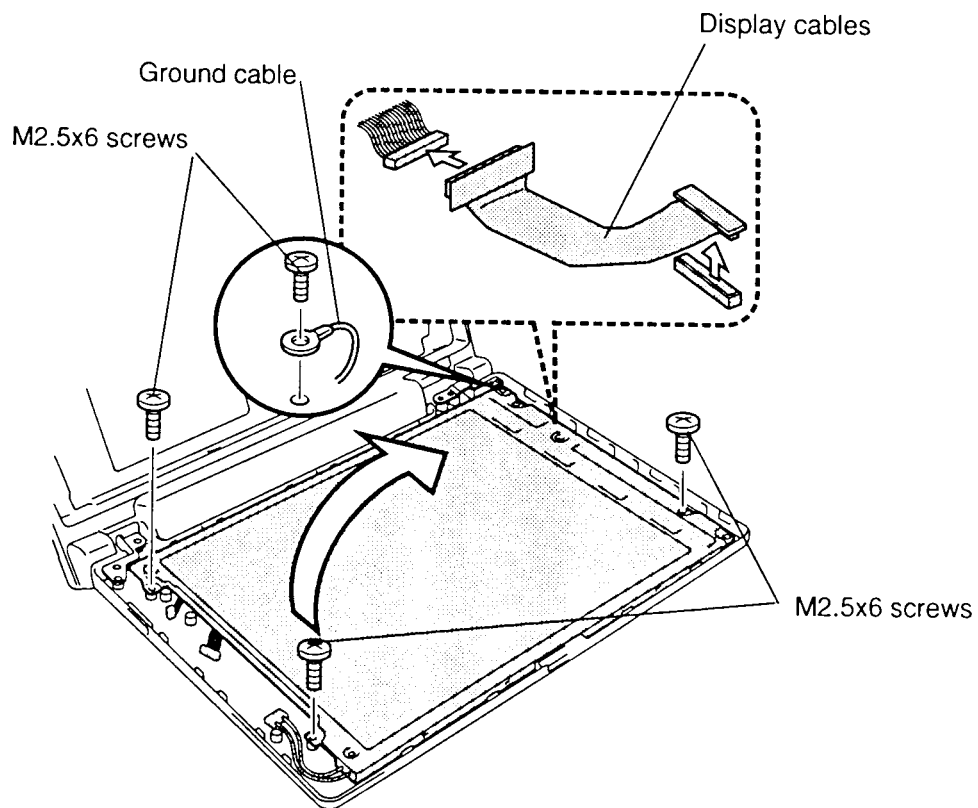

Figure 4-23 Removing the LCD module
To remove the T2110CS/T2130CS's color LCD module, follow the steps below and refer to figure 4-23.
3. Remove **four M2.5x6 screws** (two of them with **ground cables**), securing the **LCD module** to the LCD cover (figure 4-23).
4. Carefully rotate the **LCD module** from left to right out of the display cover and disconnect the **display cable** from the LCD module (figure 4-23).
1. Connect the **display cable** to the **LCD module**, and carefully rotate the LCD module into the LCD cover (figure 4-23).
2. Secure **four M2.5x6 screws** with **ground cable** on the **LCD module** (figure 4-23).